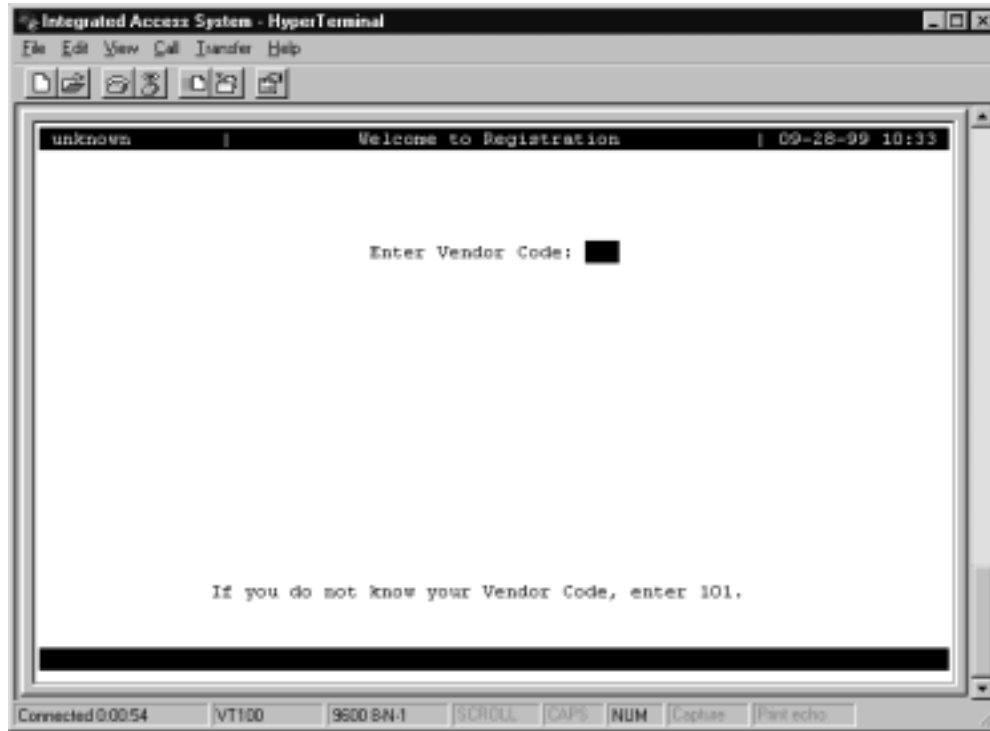

Figure 5-3. Welcome to Registration Screen
7. Enter your vendor code in the Vendor Code field. See Figure 5-3 below, press the <Enter> key.